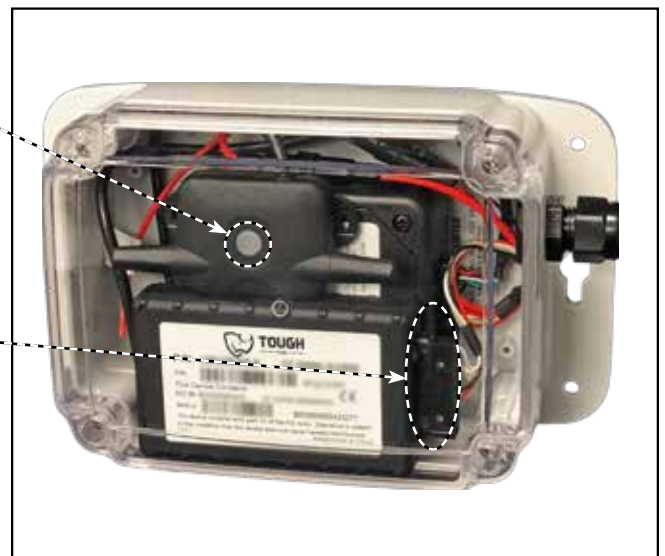

Figure 7: Receiver and sending unit indicator lights
1. The GEOTRACK TPMS receiver indicator will also begin blinking. See Figure 7.
2. The GEOTRACK TPMS sending module indicators will begin blinking and acquire signal. See Figure 7.